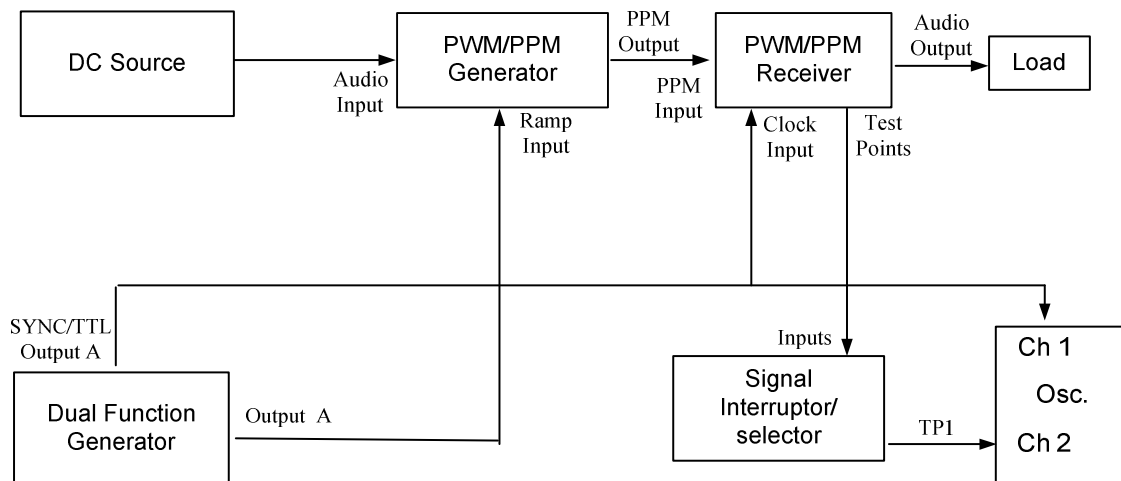

Figure 4 PPM System
- Use the PPM system shown in figure 4. PPM generator – pulse gen - “course” set to min, “fine” set to max.